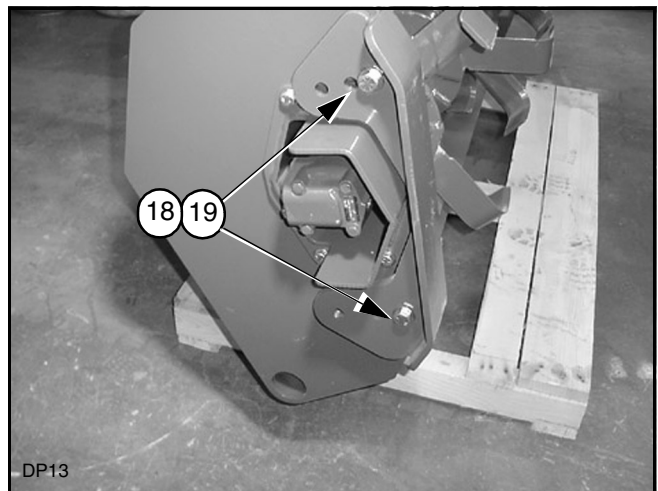

Figure 22.
Assemble the depth skid on either side of the chassis, using an additional two 5/8" washers (18) and two 5/8" nuts (19) for each side as shown in Figure 22. Torque to 240 lbs-ft (325 N-m).